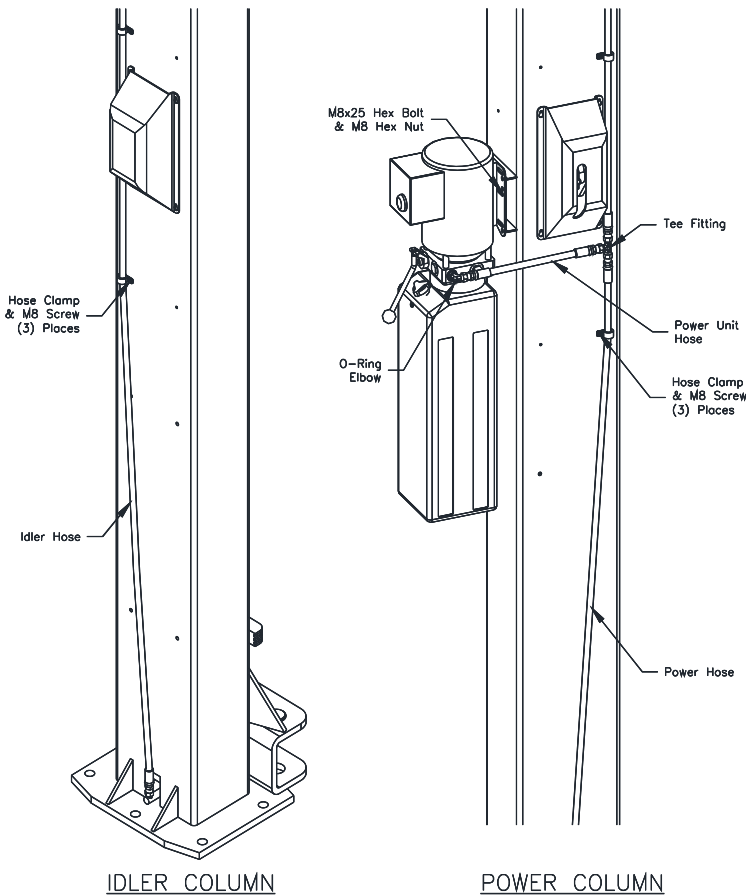

Fig. 7 – Hose Routing
- Attach bolt-on parts to column extensions as shown in **Fig 7** and assemble to columns using M12 x 30 Hex bolts. Ensure power extension assembly is bolted to power column. NOTE: Install Nut and Washers on exterior of the assembly.
- 19) Mount Power Unit to power column as shown in Fig 7 using (4) M8 hex bolts and nuts.
- 24) Route the power hose from the cylinder elbow fitting to the union tee provided. Connect idler hose and power unit hose to union tee as shown in Fig 7.
- 25) Use hose clamps and M8 Screws to secure hydraulic hoses as shown in Fig 7.